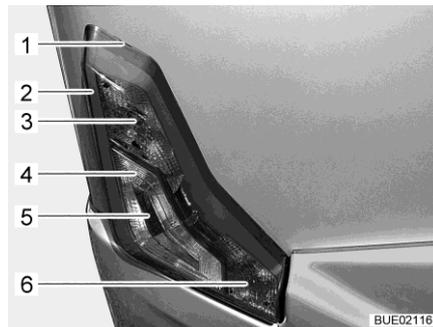

Fig. 202 Rear lights
- Insert flat tool into notch (Fig. 202,1) and carefully lever off the housing.